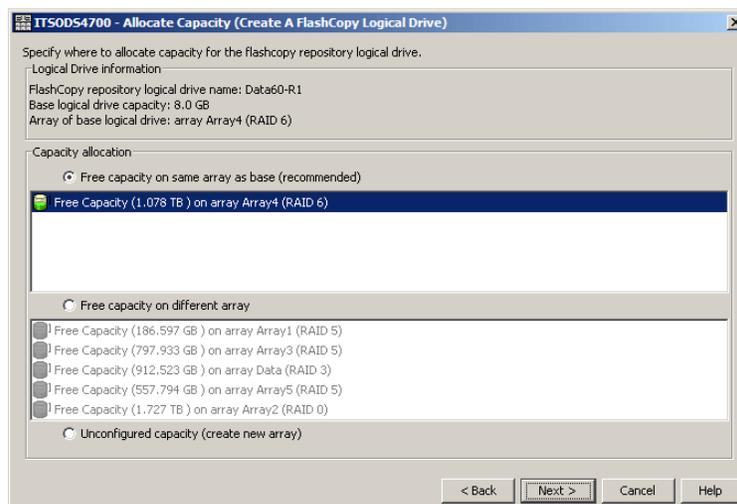

Figure 7-13 Create FlashCopy Logical Drive wizard: Allocate capacity
- b. The Allocate Capacity window (Figure 7-13) is presented, on which you can choose free capacity on the *same array* as the base, free capacity on a *different array*, or unconfigured capacity to create a *new array*.